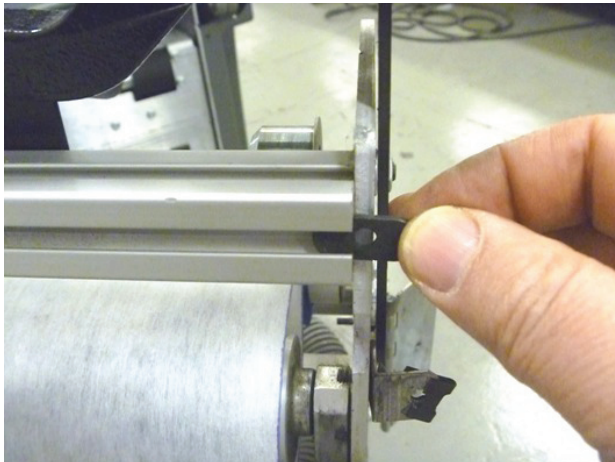

Figure 8
- Lift the support rail away from the side frame and insert the four $\frac{1}{4}$ -20 T-nuts from the kit into the channel, as shown. Refer to *Figure 8*.